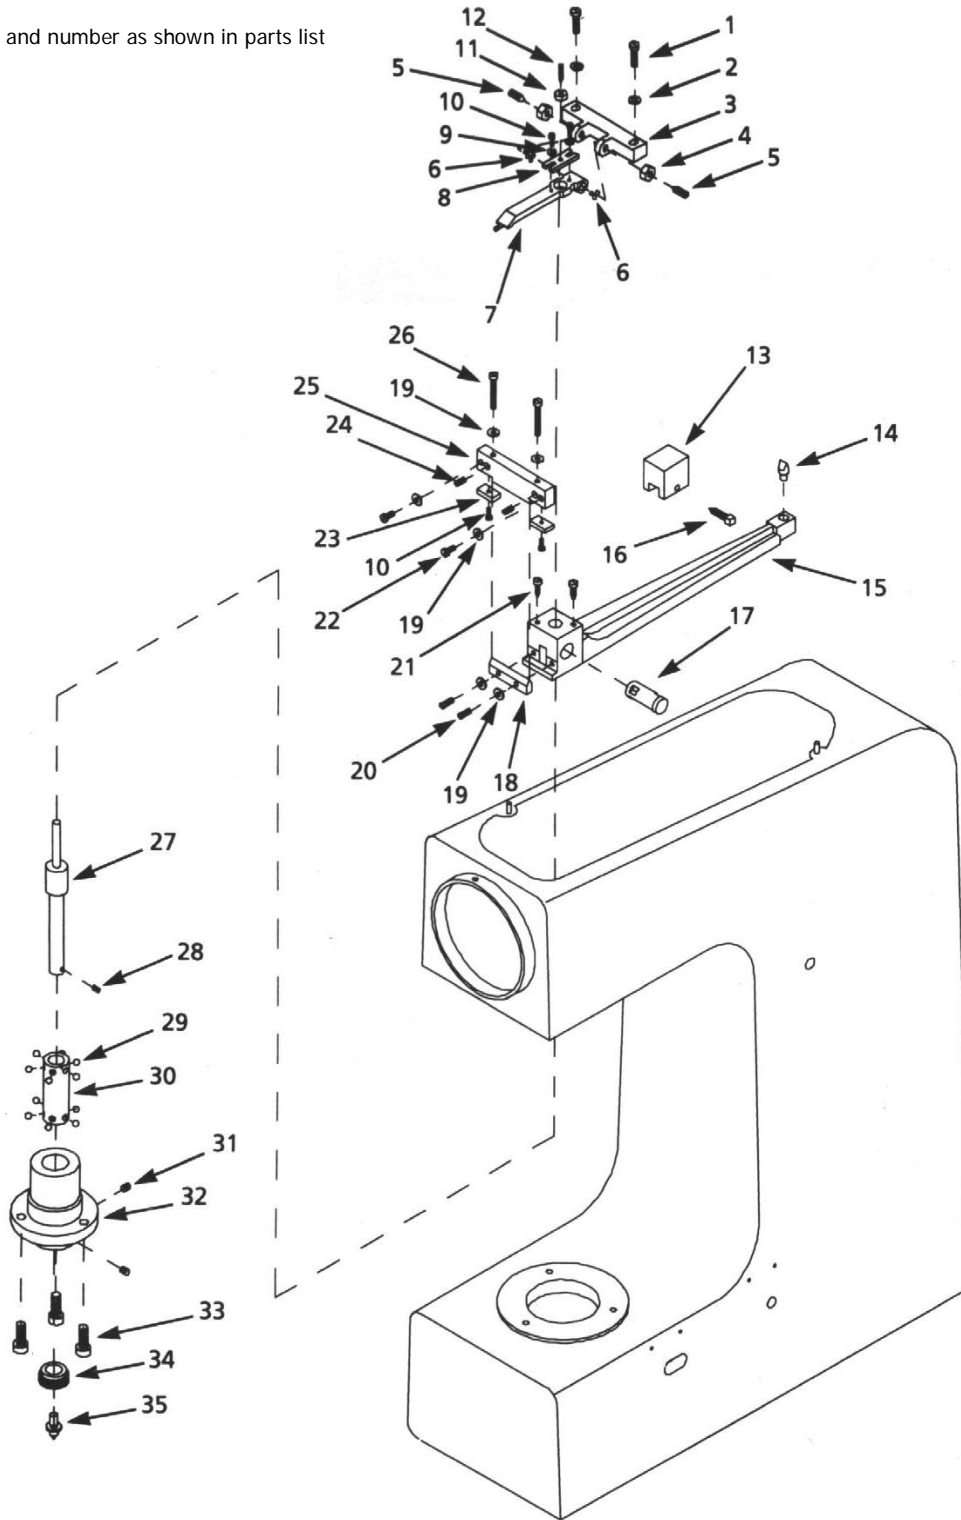

Figure 6- Replacement Parts Illustration
1. Determine the proper indenter, scale and weight for the material hardness to be tested (see Figure 3). Mount the required indenter in the indenter holder using the set screw (Fig. 6, Ref. Nos. 27 and 28) on the side of the holder.
## Replacement Parts List (Figure 6)